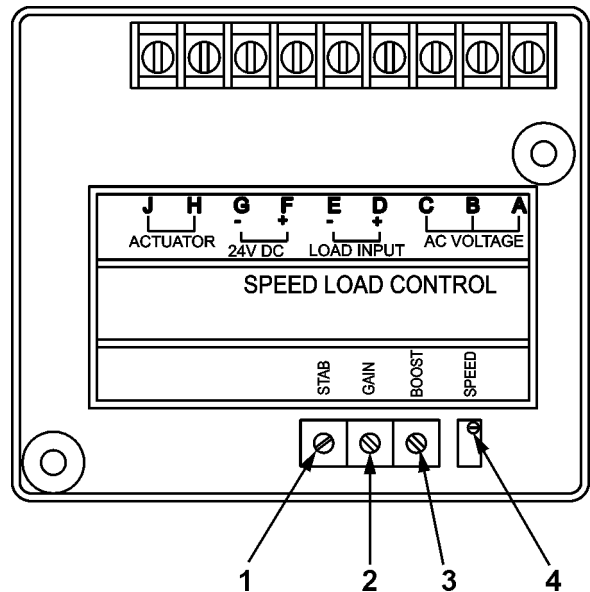

Figure 4-50. Governor Control Module
5. Start the generator set (paragraph 2-8) and run in no load condition. Adjust control module SPEED pot (4, Figure 4-50) to obtain a PMA frequency of 254 Hz (3050 RPM) or a voltage of 178 +/- 2 volts AC. Clockwise rotation of the SPEED pot increases frequency and voltage. Counterclockwise rotation decreases frequency and voltage.
7. Turn the STABILITY pot (1, Figure 4-50) and GAIN pot to the full counterclockwise position.
8. Rotate control module STABILITY pot (1, Figure 4-50) clockwise until engine becomes unstable, then counterclockwise until it stabilizes, and then a little further counterclockwise.
9. Rotate control module GAIN pot (2) clockwise until engine becomes unstable, then counterclockwise until it stabilizes, and then a little further counterclockwise.
10. Close load contactor and apply full rated load. Adjust control module BOOST pot (3) to obtain a PMA frequency of 288 Hz (3450 RPM) or a voltage of 193 +/- 2 volts AC. Clockwise rotation of the BOOST pot decreases frequency and voltage. Counterclockwise rotation increases frequency and voltage.
11. Check the no load to rated load operation by opening and closing the CIRCUIT INTERRUPTER switch and observing the actuator magnet and plate (19, Figure 4-51). If the actuator magnet makes contact with the plate during the on/off load operation, reduce gain slightly by rotating GAIN pot (2, Figure 4-50) clockwise.